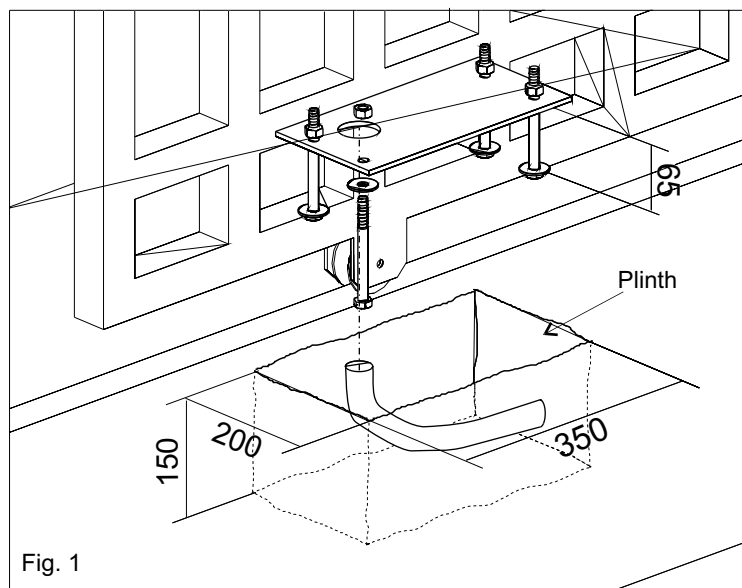

Fig. 1
**2.1.** Have a mounting plate manufactured to the dimensions shown in Fig. 1. The plate will require to have concrete holding into which the foundation plate and the anchor bolts will be walled up. It is best if the gate structure allows the plate to be raised up from the finished level by 50 mm. This will stop water gathering around the operator.